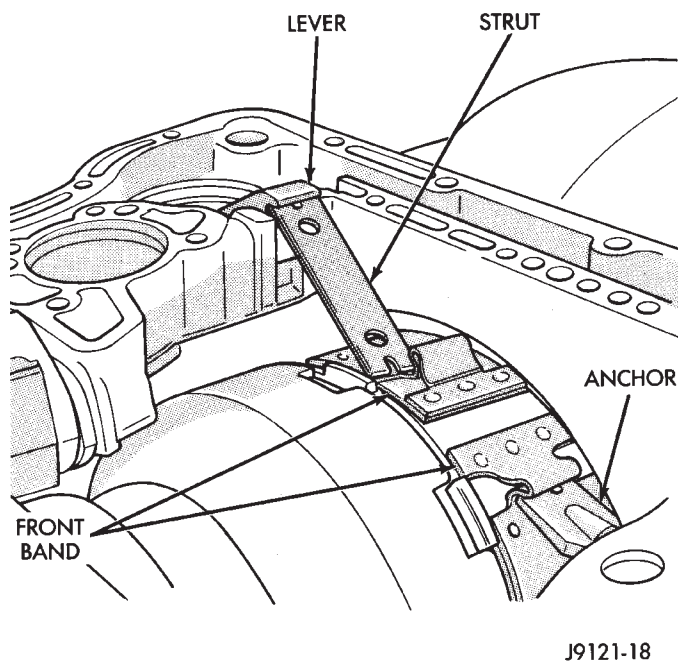

Fig. 147 Front Band And Linkage Installation—46RH
(27) Slide front band over front clutch retainer and install front band strut and anchor (Fig. 147).